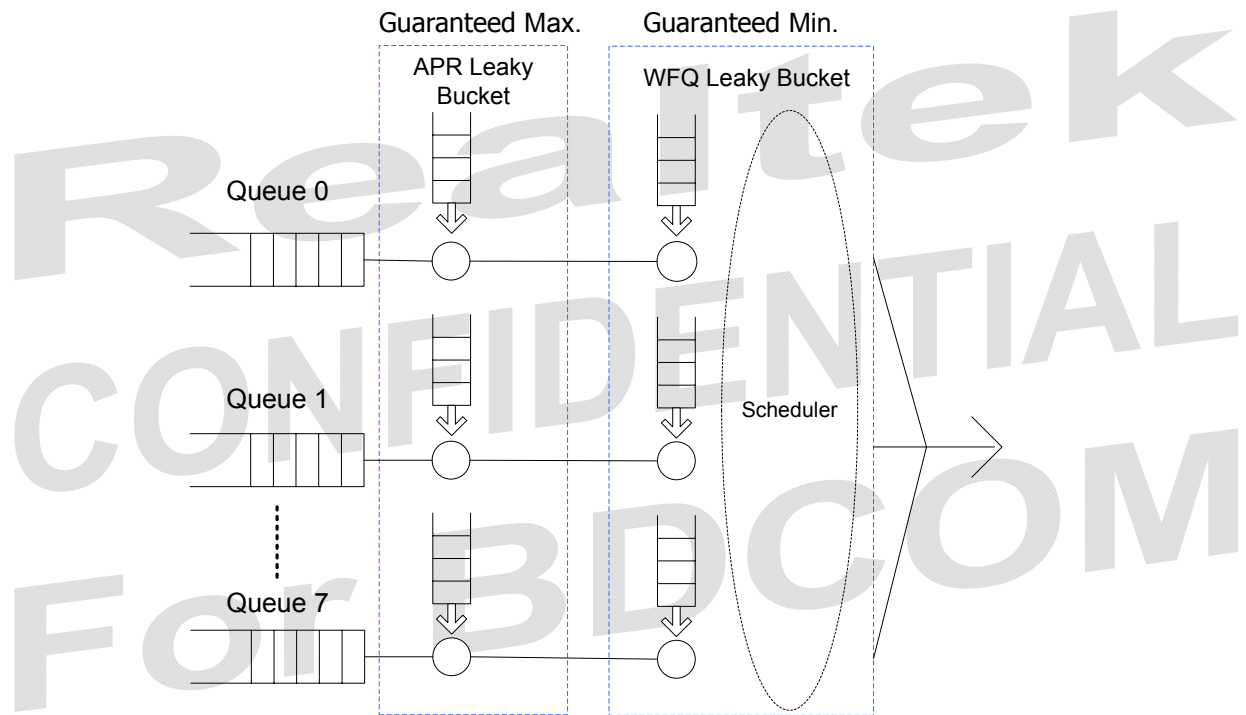

Figure 8. RTL8370(M) MAX-MIN Scheduling Diagram
In addition, each queue of each port can select Strict Priority or WFQ packet scheduling according to packet scheduling mode. Figure 8 shows the RTL8370(M) packet-scheduling diagram.